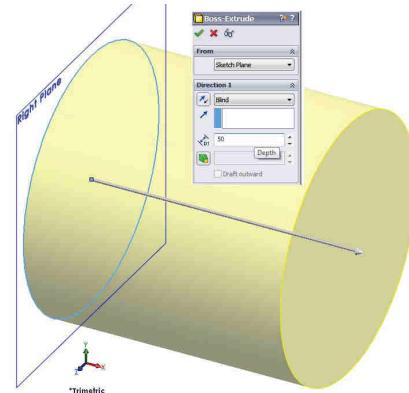

Fig. 9.5
- În caseta **Boss-Extrude** PropertyManager, sub zona **Direction 1** se va completa, fig. 9.5:
- In the PropertyManager, under **Direction 1**, fig. 9.5: